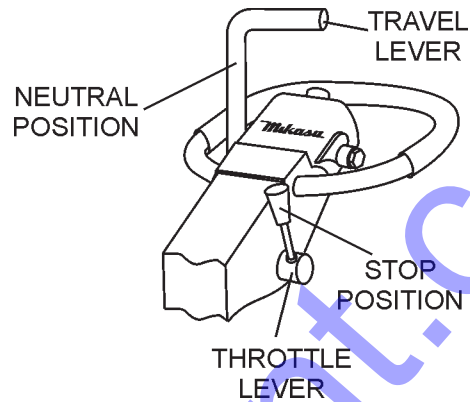

Figure 20. Travel Lever (STOP)
3. Place the throttle lever in the **STOP** position (Figure 20) to stop the engine.